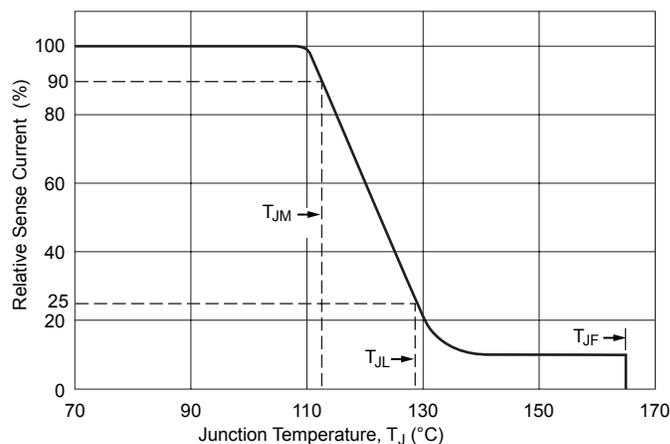

Figure 2. Temperature monitor current reduction.
**Temperature Monitor** A temperature monitor function, included in the A6261, reduces the LED current as the silicon junction temperature of the A6261 increases (see figure 2). By mounting the A6261 on the same thermal substrate as the LEDs, this feature can also be used to limit the dissipation of the LEDs. As the junction temperature of the A6261 increases, the regulated current level is reduced, reducing the dissipated power in the A6261 and in the LEDs. The current is reduced from the 100% level at typically 4% per degree Celsius until the point at which the current drops to 25% of the full value, defined at  $T_{JL}$ . Above this temperature the current will continue to reduce at a lower rate until the temperature reaches the overtemperature shutdown threshold temperature,  $T_{JF}$ .